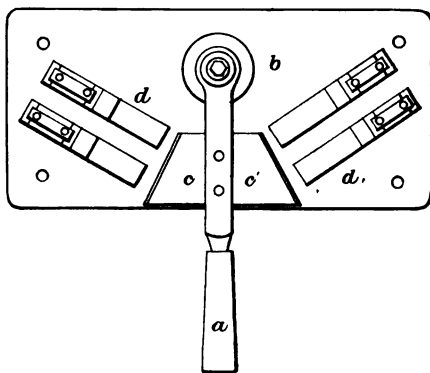

Fig. 42.—Double Hatchet Switch.
*Two-way Heavy Branch Switch.*—In Fig. 42 is depicted a switch of the same nature as that described above, but adapted for two circuits instead of one. The lever, *a*, with its plate, *c*, may be put in contact with the pair of plates, *d* or *d'*. In this way a *reserve* circuit, connected, say to *d'*, may be brought into working, upon the failure of that connected to *d*. The main connections will, in this case, be bifurcated,